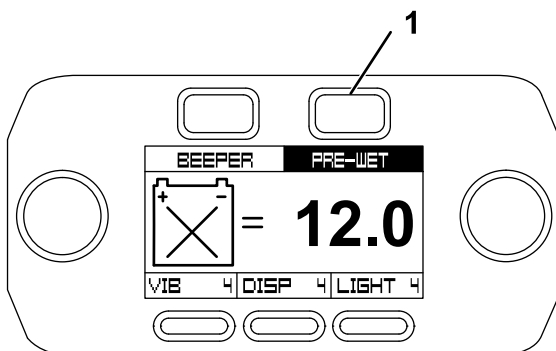

Figure 47
- Press the Pre-Wet button (Figure 47).